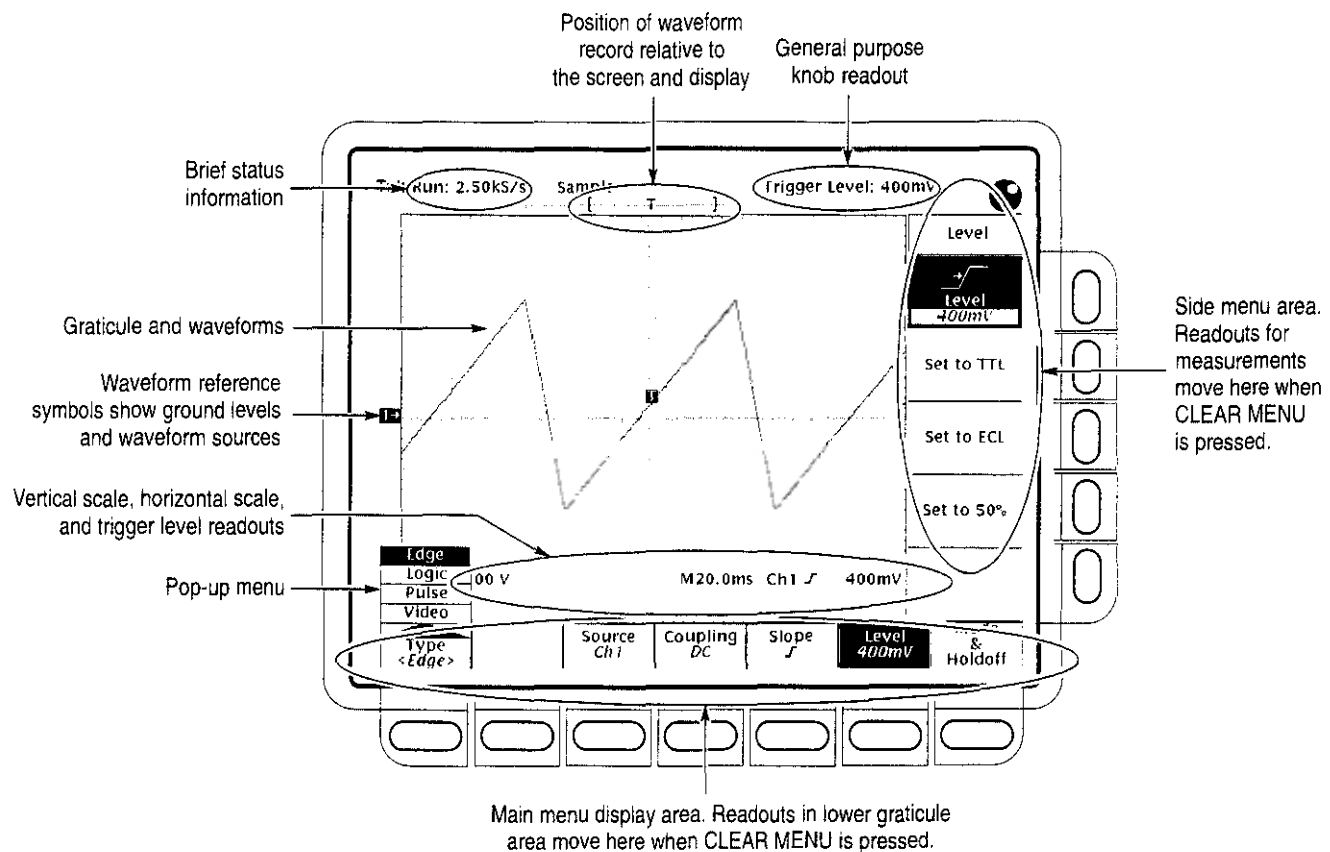

Figure 1-1: Map of Display Functions
- Refer to Figure 1-1: "Main menu" refers to the menu that labels the seven menu buttons under the display; "side menu" refers to the menu that labels
- The vertical scale readout for the channel under test shows a setting of 200 mV, and a square-wave probe-compensation signal about 2.5 divisions in amplitude is on-screen. See Figure 1-1 on page 1-3 to locate the readout.